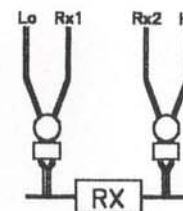

Fig. 3
- 4) Connect the 2 clips as following Fig. 3 to measure the unknown resistance.